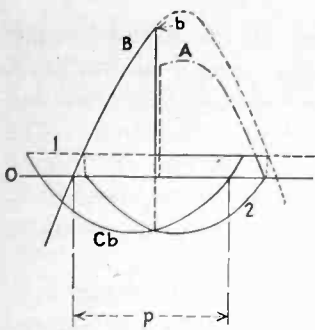
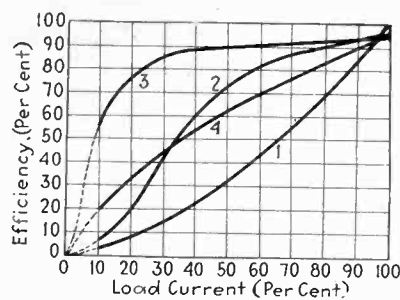
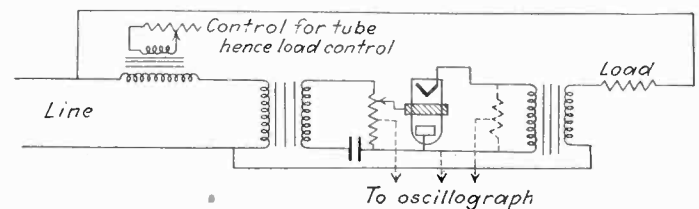

Fig. 3—Relations between grid and anode voltages and anode current
Fig. 4—Efficiency of new circuit compared with other methods of controlling intensity of illumination
Fig. 5—Reflected-impedance method of improving efficiency of Kathetron circuit
The conditions necessary for the operation of the control circuit may be obtained from Fig. 3. In this figure the relations between voltage waves applied to the anode and to the control electrode are indicated, the zero axis being given by the line 0. The curve B indicates the voltage wave applied to the anode. The curve C_b represents a voltage wave applied to the control electrode. The distance P represents the phase displacement between the anode voltage and the control electrode voltage. The curve A represents a current pulse flowing in the anode circuit. The dashed line (1) indicates a limited voltage below which the arc will not be sustained. The curve (2) indicates the negative voltage necessary to be applied
The anode voltage curve B and the anode current curve A in Fig. 3 illustrate the operation obtained with a control voltage wave represented by curve Cb. It will be seen that curve B is drawn in solid lines to point b, then vertically downward to the horizontal line (1) then horizontally to the right until it reaches the extended envelope of its sine wave form. The curve A, representing the current pulse flowing in the anode circuit rises abruptly from zero to a value near its peak value immediately following the point b, and then continues in a sinusoidal form until the arc is extinguished at the end of the alternation. At the instant of starting of the arc, the anode voltage abruptly drops to a constant value represented by dashed line (1) of the order of 15 to 20 volts, and it remains at this value throughout the remaining part of the alternation. The dotted portion of curve B represents the sinusoidal outline which the anode voltage wave would assume in case no current flows through the anode circuit.
Efficiency measurements with ordinary meters on Kathetron circuits are apt to be in error due to the peculiar waveform of the output as indicated in Fig. 3. A more accurate determination could be obtained by the integration of oscillograms. Indicating and integrating wattmeters give a fair indication of efficiency, however, and Fig. 4 illustrates how the efficiency of a typical 2 kw. Kathetron dimmer compares with other forms of
Curve 1 of Fig. 4 illustrates the efficiency of a simple resistance dimmer system in which a variable resistance is inserted in series with the load. The drooping character of this curve is due to the high positive temperature coefficient of the load. Curve 2 is an efficiency curve for dimmer circuits of the type employing a saturable core reactor connected in series with the lamp load. Curve 3 illustrates the efficiency of dimmer circuits of the type shown in Fig. 5, and curve 4 illustrates the efficiency of a circuit wherein a variable resistance is substituted for the control tube.
From an inspection of the curves shown in Fig. 4 it will be seen that while the simple resistance dimmer system is 100 per cent efficient at full load, this circuit is very inefficient at less than full load values, and is, therefore, not suited for dimmer purposes which involve the operation of a circuit for considerable periods at fractional load values. While the efficiency of the thyatron saturable core reactor circuit as shown by curve 2 maintains a fairly high percentage in the neighborhood of full load values, the efficiency of this system drops off sharply below 60 per cent load current. Curve 3 illustrates the
Curve 4 has been inserted to show the advantage of the Kathetron circuit over a system in which a variable resistance replaces the vapor tube shown in Fig. 5. The improved efficiency of the Kathetron system is due mainly to the fact that the vapor electric tube possesses low internal impedance. Within the working range of the tube, the voltage drop across the tube remains substantially constant at from 10 to 25 volts depending upon the particular construction of the tube. The advantage of inserting a step-up transformer between the load circuit and the tube, instead of inserting the tube directly in the load circuit, is that a tube of relatively small current carrying capacity may be employed, thereby resulting in less loss within the tube itself and in a material reduction in the losses incidental to the operation of the tube, such as the filament circuit losses, etc.
One means for increasing the efficiency of the circuit to a very high point is indicated in Fig. 5, which method we term the reflected-impedance system. In this arrangement it is not necessary for the power control tube to carry all of the load current, in fact, if the ratio in transformer *T* is high, a very small percentage of the load current is handled through the tube. This system obviously increases the voltage across the tube and lowers the current which flows through it. The voltage, however, is not a troublesome factor in most Kathetrons since they are usually built to handle at least several thousand volts. For example, it is very easy to control 15 amperes, with a standard 872 type rectifier tube in an arrangement of this type. The only disadvantage of the circuit lies in the fact that the grid potential must also be raised in proportion to the increased anode potential. A modification of this circuit consists of replacing the primary of transformer *T* with a simple variable resistance.